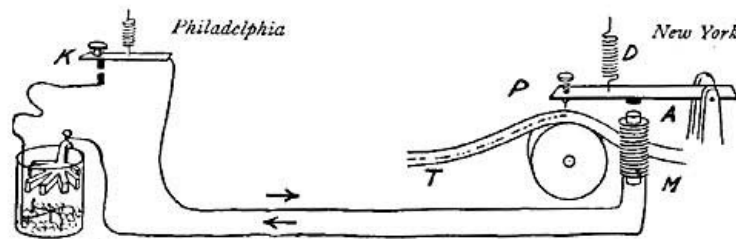
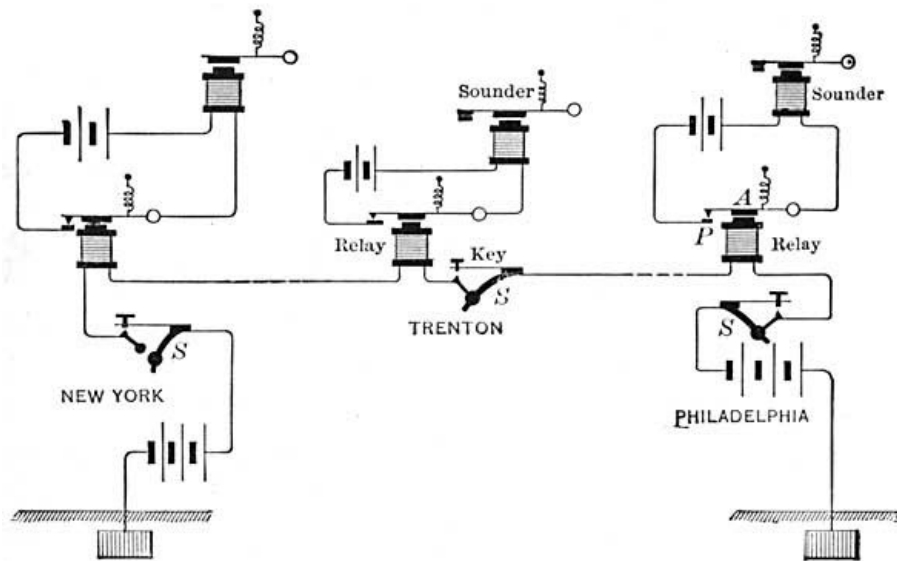

FIG. 217.—Diagram of the electric telegraph.
FIG. 220.—Diagram of a modern telegraph system.
The fundamental connections of the telegraph are shown in Figure 217. If the key *K* is pressed down by an operator in Philadelphia, the current from the battery (only one cell is shown for simplicity) flows through the line to New York, passes through the electromagnet *M*, and thence back to Philadelphia. As long as the key *K* is pressed down, the coil *M* acts as a magnet and attracts and holds fast the armature *A*; but as soon as *K* is released, the current is broken, *M* loses its magnetism, and the armature *A* is pulled back by the spring *D*. By a mechanical device, tape is drawn uniformly under the light marker *P* attached to the armature. If *K* is closed for but a short time, the armature is drawn down for but a short interval, and the marker registers a dot on the tape. If *K* is closed for a longer time, a short dash is made by the marker, and, in general, the length of time that *K* is closed determines the length of the marks recorded on the tape. The telegraphic alphabet consists of dots and dashes and their various combinations, and hence an interpretation of the dot and dash symbols recorded on the tape is all that is necessary for the receiving of a telegraphic message.
*The Relay.* When a telegraph line is very long, the resistance of the wire is great, and the current which passes through the electromagnet is correspondingly weak, so feeble indeed that the armature must be made very thin and light in order to be affected by the makes and breaks in the current. The clicks of an armature light enough to respond to the weak current of a long wire are too faint to be recognized by the ear, and hence in such long circuits some device must be introduced whereby the effect is increased. This is usually done by installing at each station a local battery and a very delicate and sensitive electromagnet called the *relay*. Under these conditions the current of the main line is not sent through the sounder, but through the relay which opens and closes a local battery in connection with the strong sounder. For example, the relay is so arranged that current from the main line runs through it exactly as it runs through *M* in Figure 217. When current is made, the relay attracts an armature, which thereby closes a circuit in a local battery and thus causes a click of the sounder. When the current in the main line is broken, the relay loses its magnetic attraction, its armature springs back, connection is broken in the local circuit, and the sounder responds by allowing its armature to spring back with a sharp sound.
**302. The Earth an Important Part of a Telegraphic System.** We learned in Section 299 that electricity could flow through many different substances, one of which was the earth. In all ordinary telegraph lines, advantage is taken of this fact to utilize the earth as a conductor and to dispense with one wire. Originally two wires were used, as in Figure 217; then it was found that a railroad track could be substituted for one wire, and later that the earth itself served equally well for a return wire. The present arrangement is shown in Figure 220, where there is but one wire, the circuit being completed by the earth. No fact in electricity seems more marvelous than that the thousands of messages flashing along the wires overhead are likewise traveling through the ground beneath. If it were not for this use of the earth as an unfailing conductor, the network of overhead wires in our city streets would be even more complex than it now is.